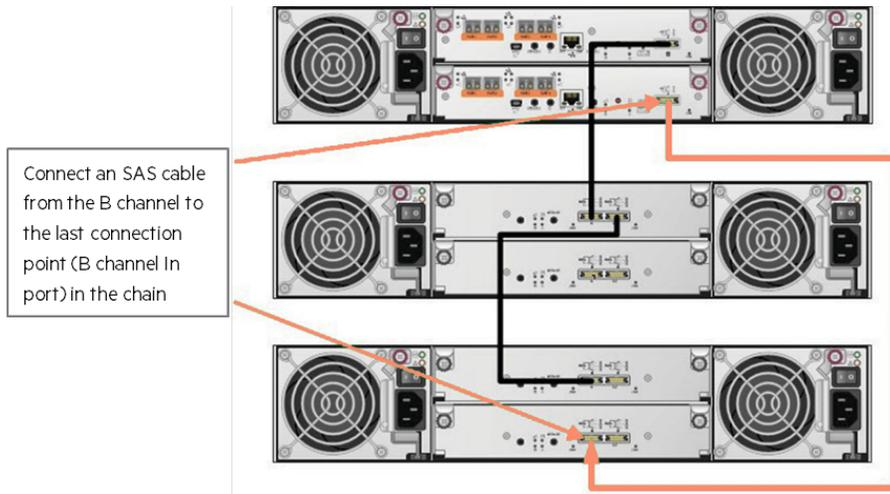

Figure 29. Initial B channel cabling configuration
6. Connect an SAS interconnect cable from controller B on the MSA 1050/2050/2052 array to the last B channel In port on the disk enclosures as indicated in Figure 29.